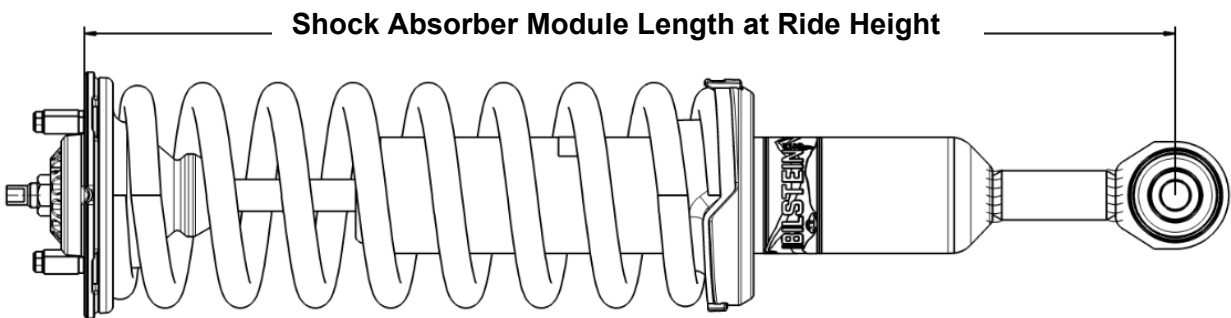

Figure 2
*** **DO NOT USE** this circlip location for stock weight vehicles. However, if substantial additional weight is added to your vehicle (e.g. heavy bumper and winch), and this results in a loss of ride height, this circlip location may be utilized to restore the vehicle to its intended ride height. Subsequently, it is essential that you verify the shock absorber module length at ride height does not exceed the values listed in **Figure 2**.
For models equipped with **Rear Coil Spring** suspension, verify the shock absorber module length specified in Figure 2 below is **less than or equal to 24 3/32" (612mm)**. If the resultant shock absorber module length is greater than 24 3/32" (612mm), a lower circlip location should be used.
For models equipped with **Rear Leaf Spring** suspension, verify the shock absorber module length specified in Figure 2 below is **less than or equal to 23 3/4" (603mm)**. If the resultant shock absorber module length is greater than 23 3/4" (603mm), a lower circlip location should be used.